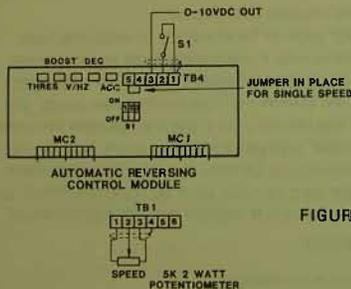

FIGURE 11
In the FHP ParaJust, electronic reversing is made available by substituting the electronic reversing control module for the standard control module. The reversing control module will allow a motor to reverse direction at the command of an external switch, limit switch, or relay contact. It is the equivalent of changing two motor leads. The reversing control module has a five (5) connection terminal block labeled TB4 (refer to Figure 11).
7.3.2.1 SINGLE SPEED. Connect a forward/reverse switch or contact across terminals 1 and 2 of TB4 on the control module (reference Figure 11). Connect the 5000 ohm speed potentiometer to terminals 1, 2 and 3 of TB1 as described in paragraph 4.4.1. **BE SURE THAT THE JUMPER IS IN PLACE BETWEEN TERMINALS 4 AND 5 OF TB4 ON THE CONTROL MODULE.**